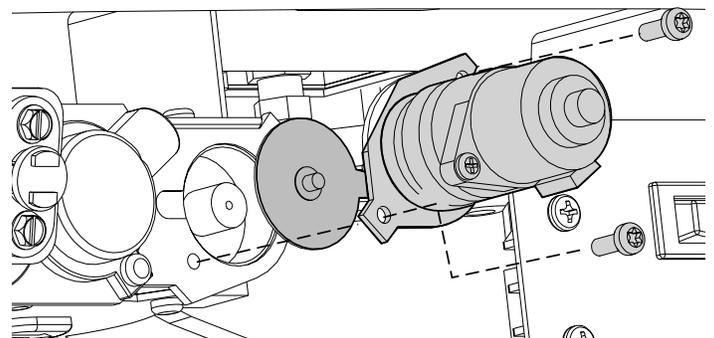

Figure 25. Manual Regulator replacement.
12. **Replace the Valve Regulator.** Using a Torx T-20 screwdriver, remove the two screws from the front of the regulator. Remove the regulator components and replace with the one from the conversion kit. See fig. 25.